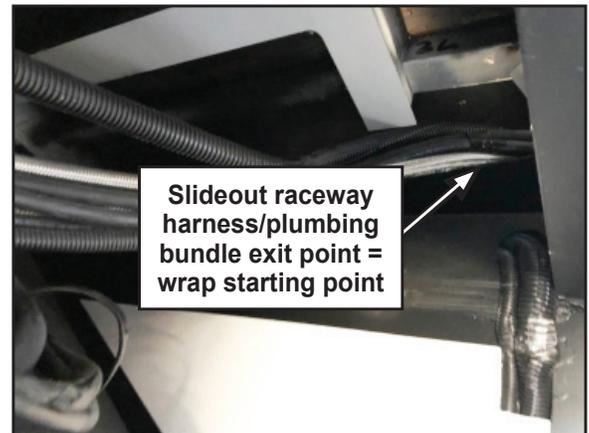

Figure 9
13. Beginning at the point where the wire harness/plumbing bundle exits the raceway coming in from the slideout, tightly spiral wrap the bundle together using electrical tape. See Figure 9.